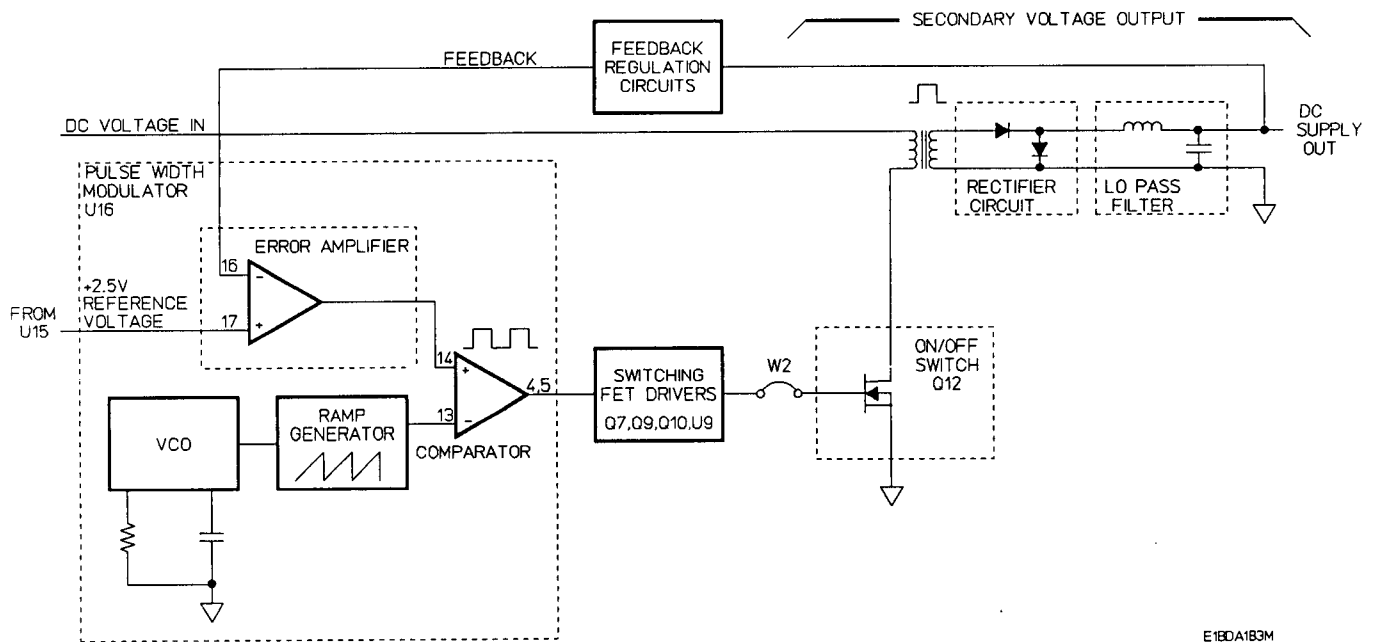

Figure 8-10. Simplified Block Diagram of the DC to DC Converter
**DC TO DC SWITCHMODE CONVERTER.** Figure 8-10 shows a simplified block diagram of the DC to DC Switchmode Converter section. It consists of the Pulse Width Modulator, the Switching FET Drivers, the Switching Transformer, the Secondary Voltage Outputs, and the Regulator Feedback circuits. The DC to DC Switchmode Converter is a fixed-frequency, variable pulse-width regulator. The pulse rate or frequency of switching is established by the internal Variable Control Oscillator (VCO) of the Pulse Width Modulator, U16. Regulation is accomplished by permitting the pulse width or "on" time to vary; this technique is referred to as duty-cycle or pulse width modulation. This square wave is then stepped up by the transformer and averaged by the rectifier/filter outputs.